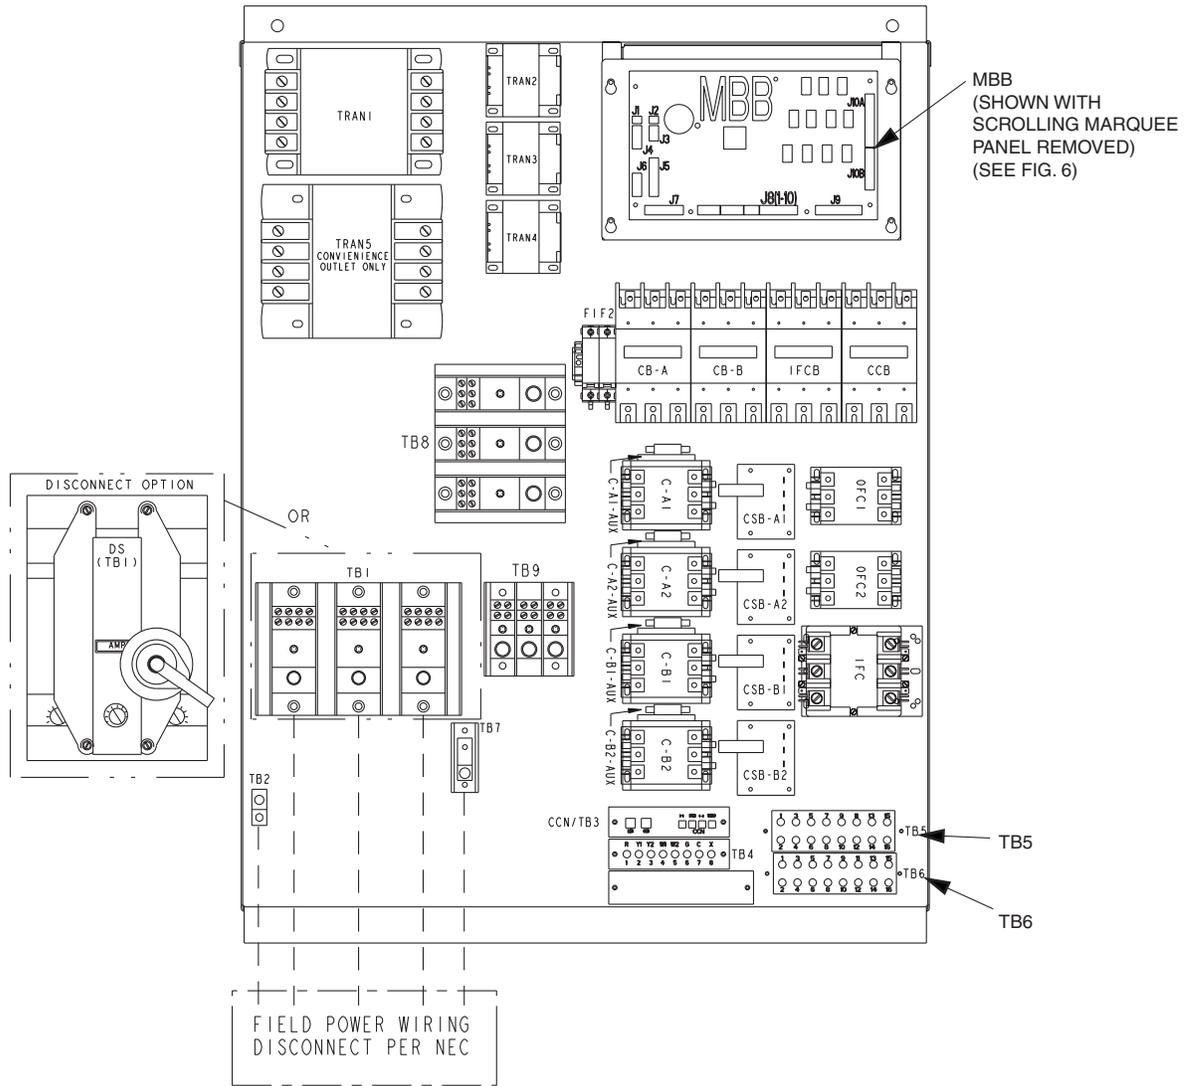
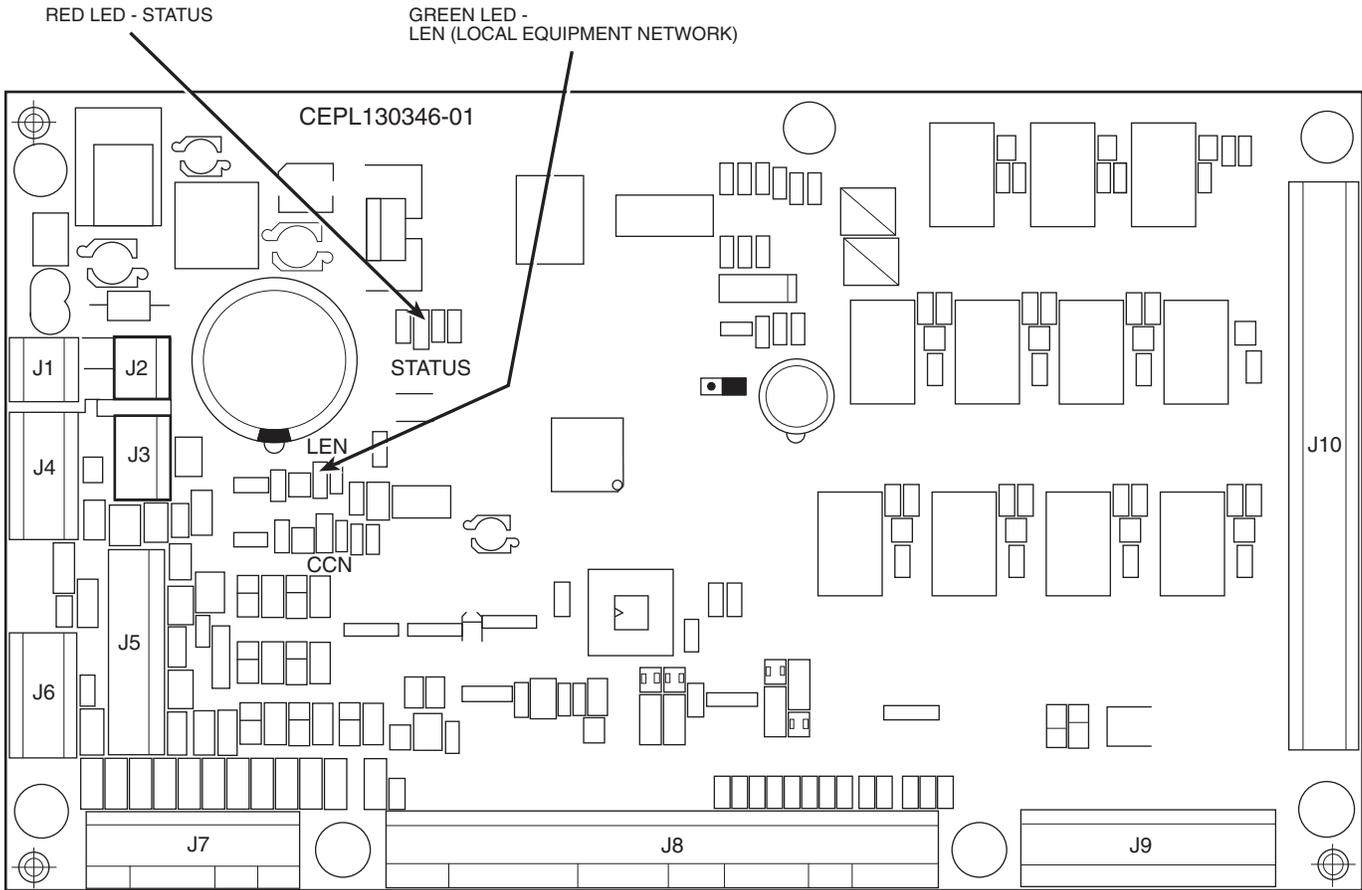

Fig. 4 — Main Control Box, 48/50AJ,AK,AW,AY020-035
Fig. 6 — Main Base Board (MBB)
9. Connect accessory wire harness plug MBB-J2 to the J2 terminal of the MBB Board. See Fig. 4 or 5 and Fig. 6.
10. Connect accessory wire harness plug CEM-J3 to the J3 terminal of the MBB Board. See Fig. 4 or 5.
11. Attach remaining accessory wire harness connections to the spade connectors on the back side of TB5 and TB6 according to the wire end labels. See Fig. 4 or 5.